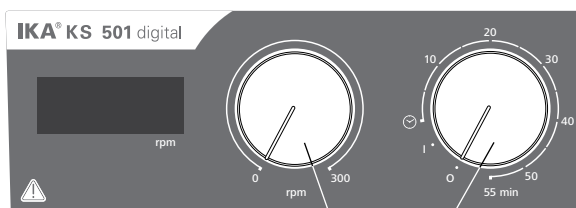

Fig. 3
- ☞ To switch the device on, turn the "On/Off" and "Timer" rotary knob (**B**, see Fig. 3) clockwise to the "1" position.
- ☞ Set the motor speed by turning the "Speed" rotary knob (**C**, see Fig. 3). The motor speed can be set to between 0 to 300 rpm.